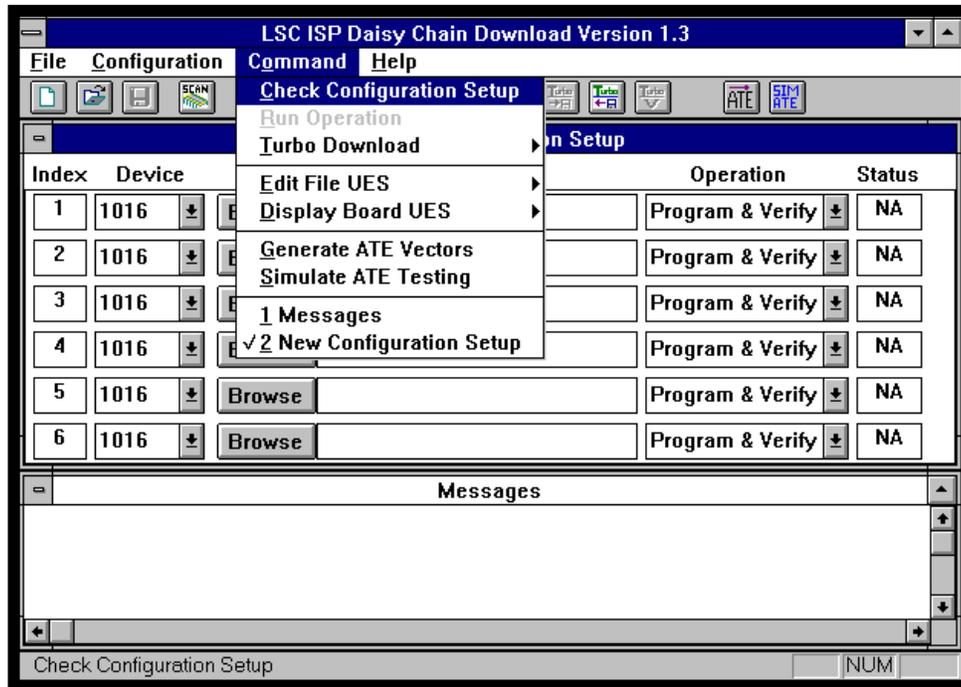

Figure 3-10. **Command** ⇒ **Check Configuration Setup** Menu Option
1. Select **Command** ⇒ **Check Configuration Setup** or click the **Check** icon from the ISP Daisy Chain Download menu (Figure 3-10).